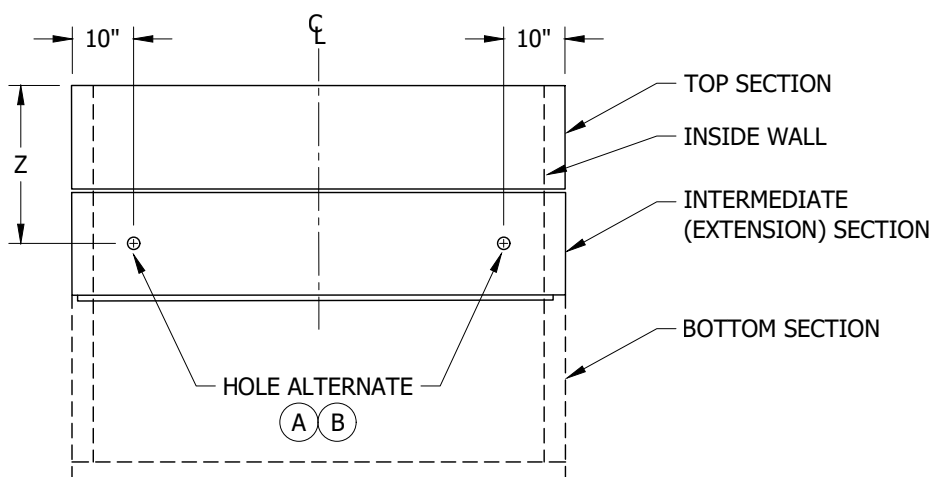

FIGURE 1
- (A) OPEN HANDHOLE AND MAKE SURE THERE IS NO EQUIPMENT AT THE DRILLING LOCATION.
- (B) DRILL A 1/2-INCH HOLE IN THE END AT ONE OF THE LOCATIONS SHOWN IN FIGURE 1 TO AVOID REBAR.